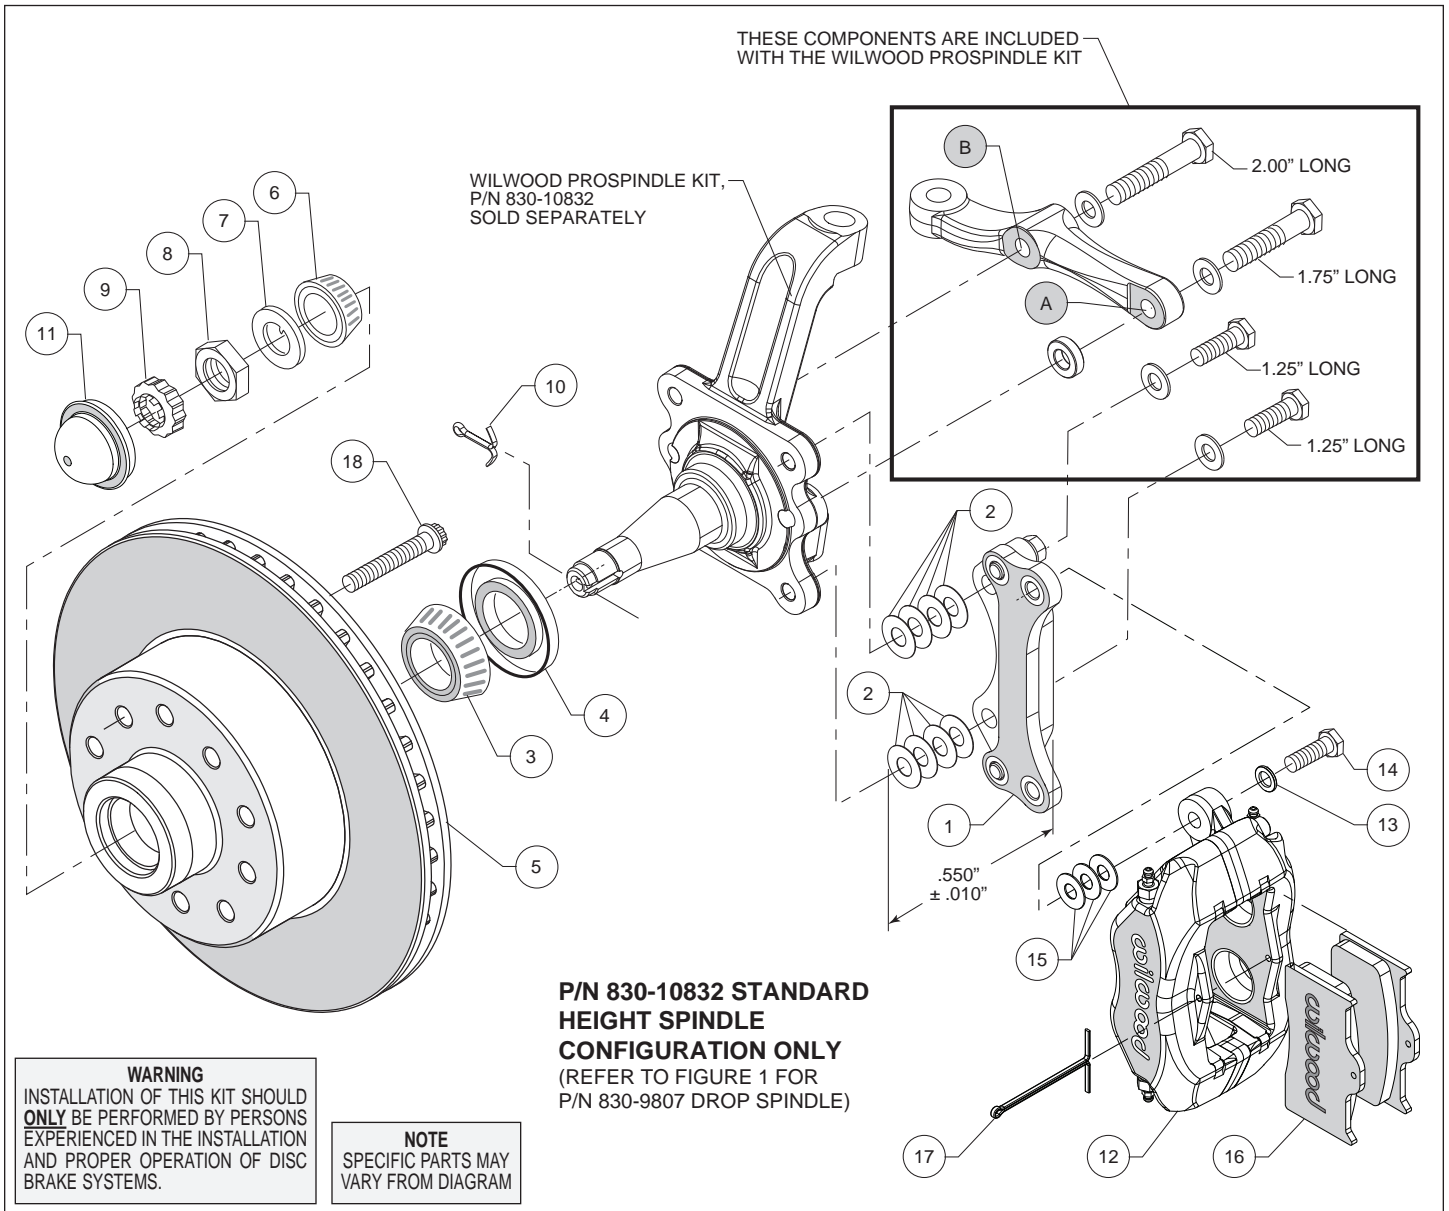

Figure 2. Installation Configuration For Standard Height Spindle, P/N 830-10832
- Orient the bracket as shown in Figure 2 and Photo 2. Install using 1.25" long bolts and .06" thick washers (from ProSpindle kit), and four .016" thick shims (2) on each bolt between the bracket and spindle, Figure 2. Temporarily tighten mounting bolts. **NOTE:** The bracket must fit squarely against the mounting points on the spindle. Inspect for interference from casting irregularities, machining ridges, burrs, etc. Remove the mounting bolts one at a time, apply red Loctite 271 to the threads, and torque to 55 ft-lb.
- Orient the steering arm, and identify the hole marked 'A', as shown in Figure 2. Install using 1.75" long bolt, .06" thick washer, and .30" thick spacer (all from ProSpindle kit), Figure 2.
- Finish attaching the steering arm through the hole marked 'B', as shown in Figure 2. Install using 2.00" long bolt and .06" thick washer (from ProSpindle kit), Figure 2.